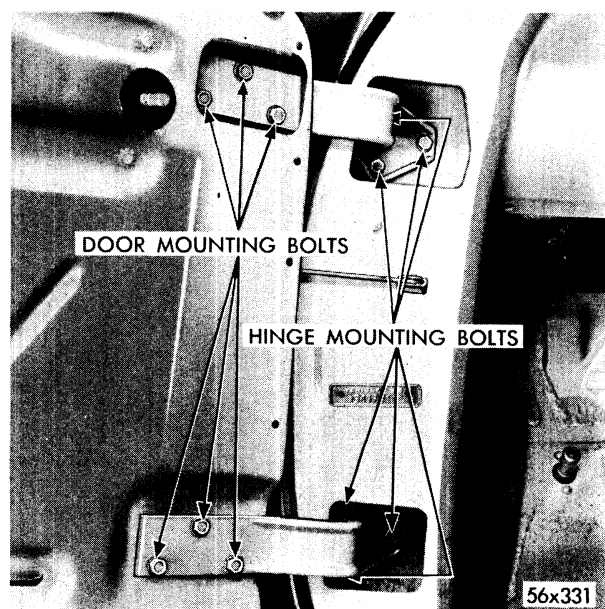

Fig. 16—Front Door Hinges
**To Raise or Lower Door (Front Doors)**—To raise or lower door, remove trim panel. Place jack under door as near hinge as possible. (This will hold weight of door as hinge bolts are loosened). Scribe a line around upper and lower hinge strap bolts, as shown in Figure 16. The amount of vertical movement in door is limited; however, the amount of movement can be determined by scribed line previously made. Raise
**Moving Door Ahead or Back (Front Door)**—Moving door ahead or back is accomplished by loosening either upper or lower hinge bolts. (See Fig. 16.) To move upper portion of door ahead or back (trim panel removed), loosen upper hinge strap bolts and either pull or push upper portion of door in desired direction. Tighten hinge strap bolt and check fit. When correct, reinstall door trim panel. To move lower portion of door ahead or back (trim panel removed), loosen lower hinge strap bolts and either pull or push lower portion of door in desired direction. Tighten hinge strap bolts and check fit. When correct, reinstall door trim panel.